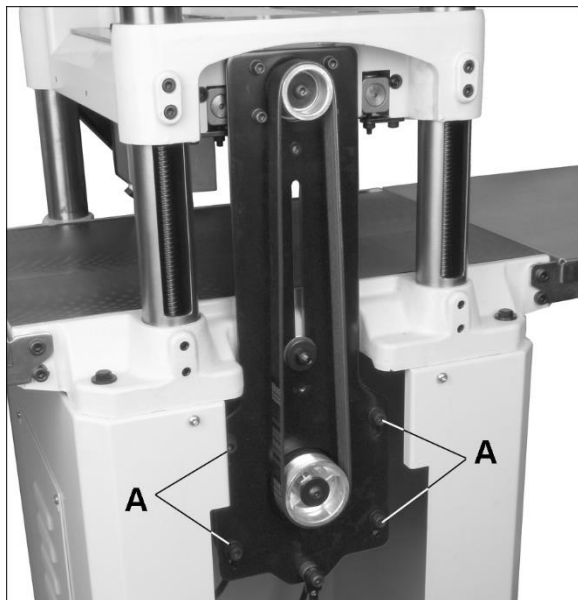

Figure 7-1
2. Remove side panel and belt guard. See Figure 7-1.
3. Loosen four socket hd cap screws (A, Figure 7-1) with 6mm hex wrench, and lower motor slightly until belt is tensioned.
5. Tighten screws (A) and reinstall belt guard and side panel.